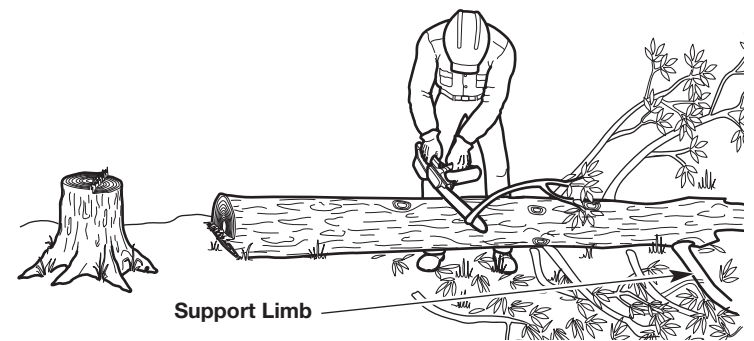

Fig. 13
1. Leave the larger support limbs under the tree for last (Fig. 13). These will keep the tree off the ground during the limbing process.
2. Cut one limb at a time. Stand on the opposite side of the tree from the limb (Fig. 13). Keep the trunk between the operator and the chain saw. To avoid binding the chain saw, branches under tension should be cut from the bottom up.